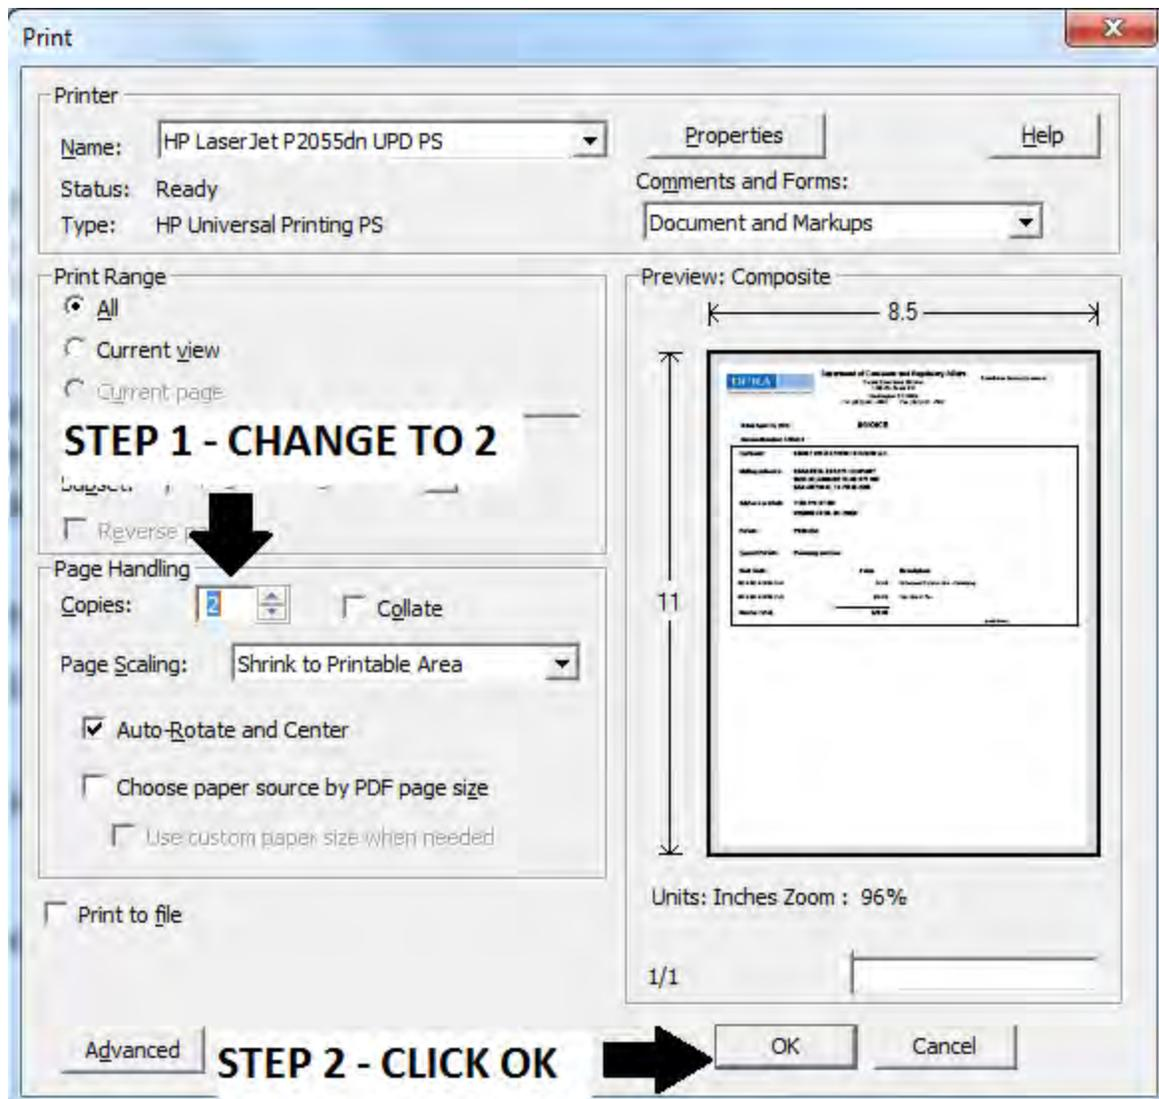

Figure 2.38
47. A Print Dialogue box will now open. Change the number of copies to “2” by either inputting the number “2” in the “Copies” field, or by pressing the up arrow to the right of the “Copies” field and then click on the “OK” button. (see Figure 2.38)